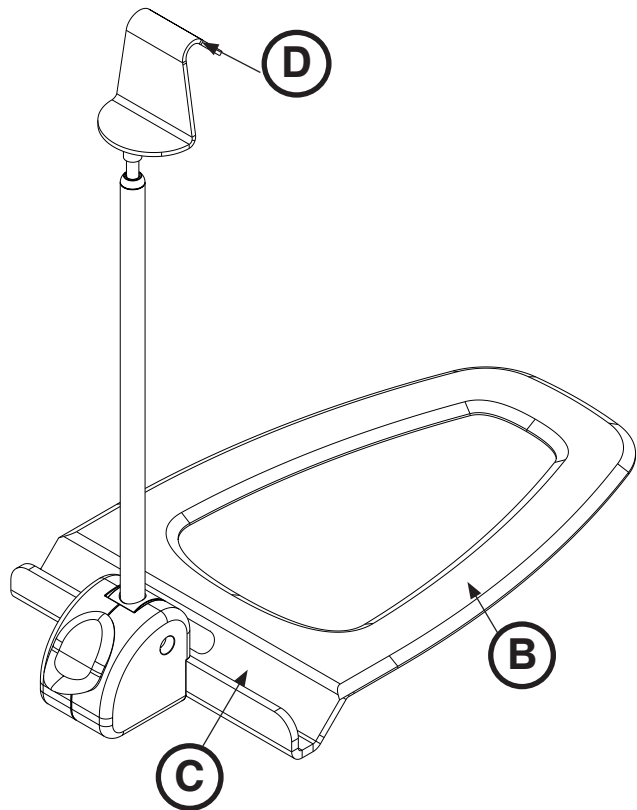

Figure 59: Lateral Cassette Holder
4. Place the X-Ray cassette in the cassette canal (C) (Figure 59).
5. Pull up on the cassette hook (D) to adjust the height of the arm to fit snugly over the X-Ray cassette to hold the cassette in place (Figure 59).
6. Pull up on the cassette hook (D) to remove the X-Ray cassette from the lateral cassette holder (Figure 59).